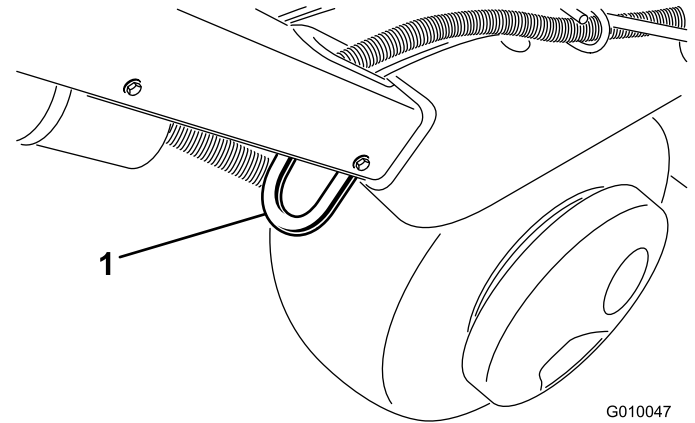
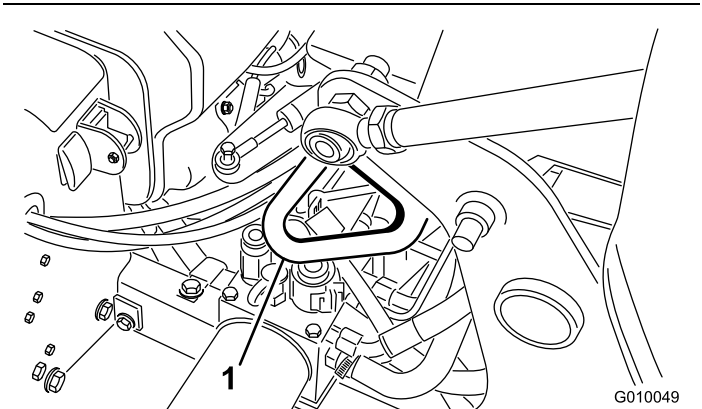

Figure 33
Figure 35
3. Securely fasten the aerator tie downs (Figure 33 through Figure 35) to the trailer or truck with straps, chains, cable, or ropes.